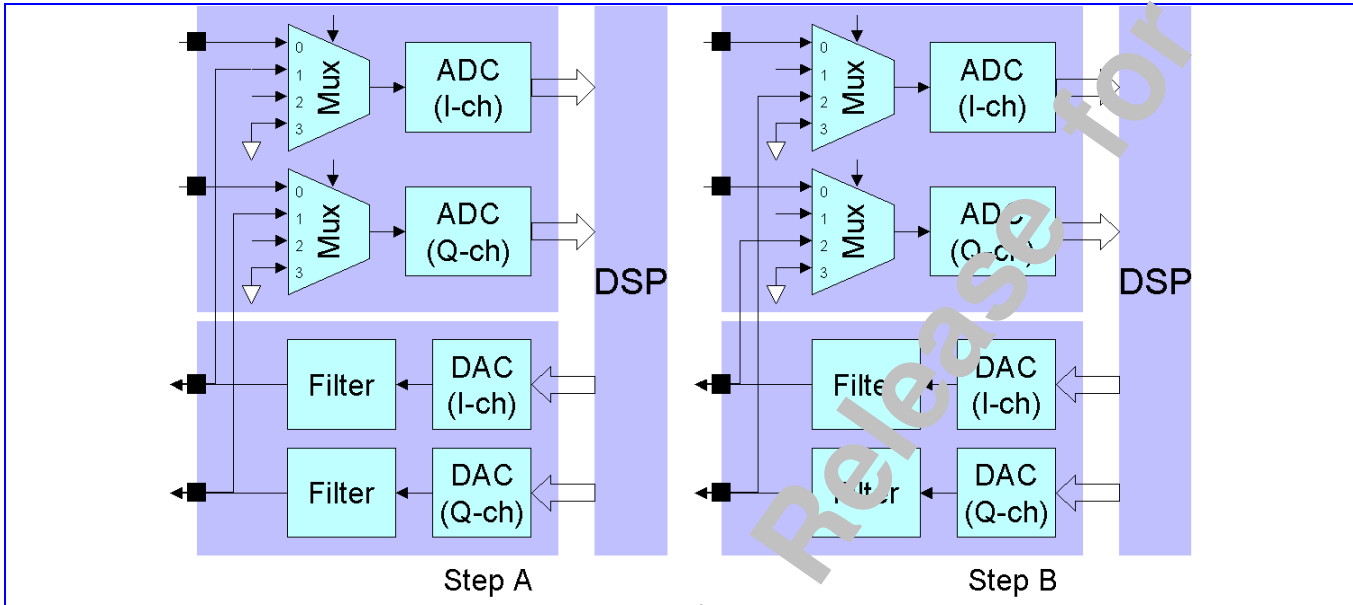

Figure 77 Downlink RX and Up-link TX Gain Mismatch Measurement (A) I/Q TX connect to I/Q RX (B) I/Q TX connect to Q/I RX
- A. The uplink I-channel output are connected to the downlink I-channel input, and the uplink Q-channel output are connected to the downlink Q-channel input. This can be achieved by setting $ISEL [1:0] = '01'$ and $QSEL [1:0] = '01'$ (shown in **Figure 77 (A)**).
- B. The uplink I-channel output are then connected to the downlink Q-channel input, and the uplink Q-channel output are connected to the downlink I-channel input. This can be achieved by setting $ISEL [1:0] = '10'$ and $QSEL [1:0] = '10'$ (shown in **Figure 77 (B)**).